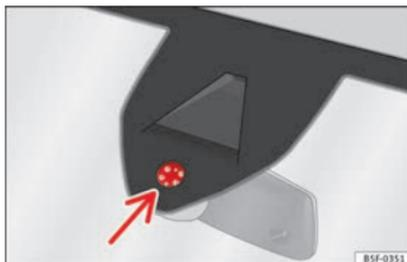

Fig. 145 Rain sensor sensitive surface
Possible causes of faults and mistaken readings on the sensitive surface » » Fig. 145 of the rain sensor include:
- Clean the sensitive surface of the rain sensor regularly and check the blades for damage » » Fig. 145 (arrow).